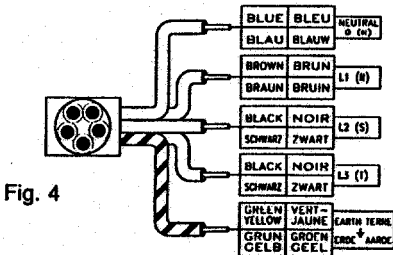

Fig. 4
3. The other wires (coloured brown and black) must be connected to the terminals marked L1, L2, and L3 or "R, S, and T". (See figure 4)